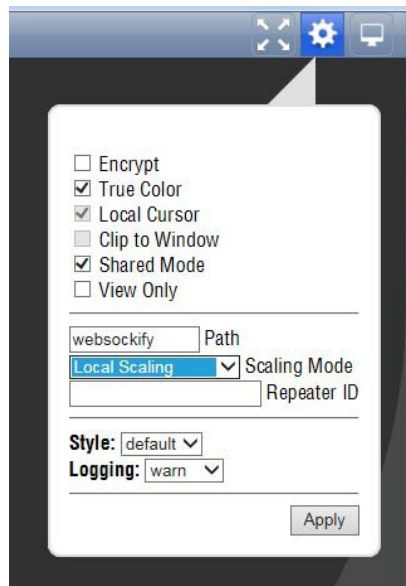

Figure 9: noVNC login web page
1. In the Control bar, click the **Settings** icon (⚙️) to open the Settings dialog box. (See Figure 9.)